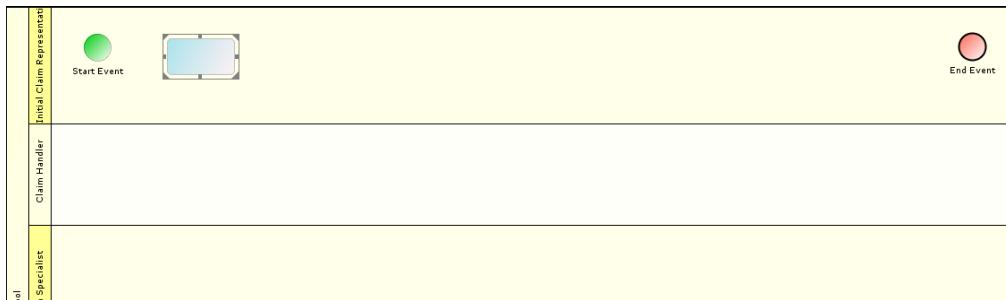

Figure 8: Dragging Workflow Activity into Swim Lane
- Click **Activity** element () in the Palette and drag it to the first swim lane (*Claim Handler*), on the Graph Canvas. The dragged activity element is displayed in the selected swim lane on the Graph Canvas (see Figure 8).